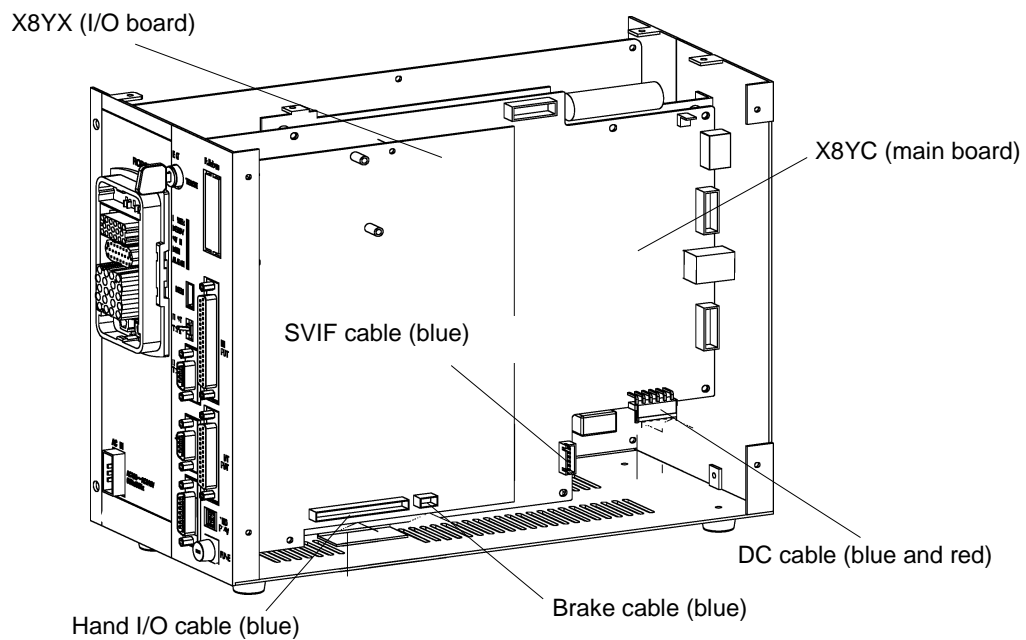

Fig. 4.6 Controller interior (KSL3000)
- 11) Insert the removed interior panel unit into the controller, and then secure it with one (1) countersunk screw (M3 x 6).
- 12) Connect the DC cable (blue and red), the SVIF cable (blue) and the encoder cable (blue) to the X8YC (main board) and, also, connect the hand I/O cable (blue) and the brake cable (blue) to the X8YX (I/O board). (See Fig. 4.6.)
- 13) Mount the cover to the main body using eight (8) countersunk screws (M3 x 6).